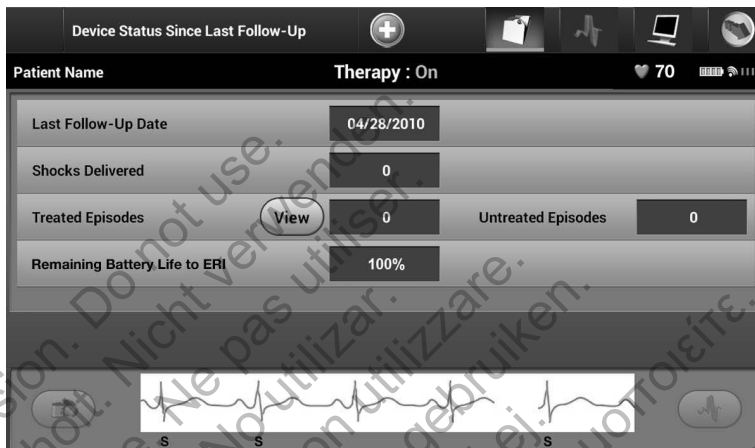

Figure 36: Device Status screen
4. The Device Status screen will appear showing an overview of all pulse generator activity since the last communication session (Figure 36).